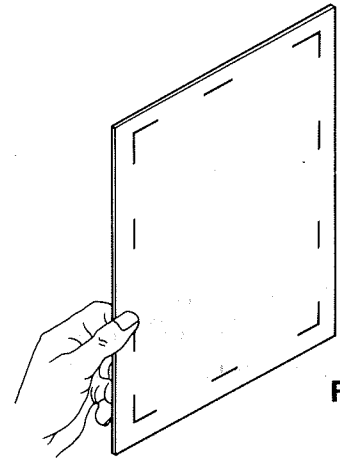

Fig.1
- 2** **CUT THE APERTURE (fig.1)**, using the template supplied. Note that the outer edge of the template corresponds to the outer edge of the bezel and may be used to assist in choosing the speakers location.